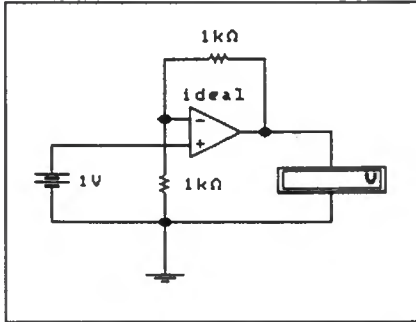

Fig. 5.11 Non-inverting amplifier circuit (Assignment 5.1).
1. Connect the non-inverting amplifier circuit shown in Fig. 5.11. Check that the
- Finally, return to the circuit of Fig. 5.11 with $V_{IN} = 1V$. Choose a value for R_F that will produce an output voltage of 10V (i.e., a voltage gain of exactly 10). Check that the circuit works and note down the value of R_F used.